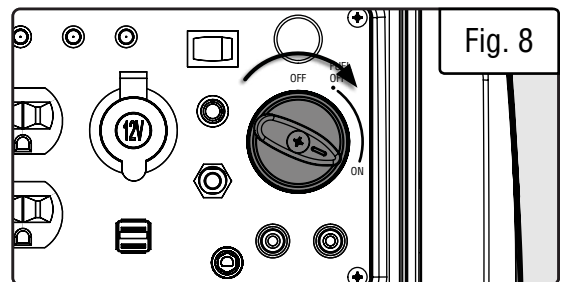

Fig. 8
8. Turn the engine switch to the ON position (Fig. 8).